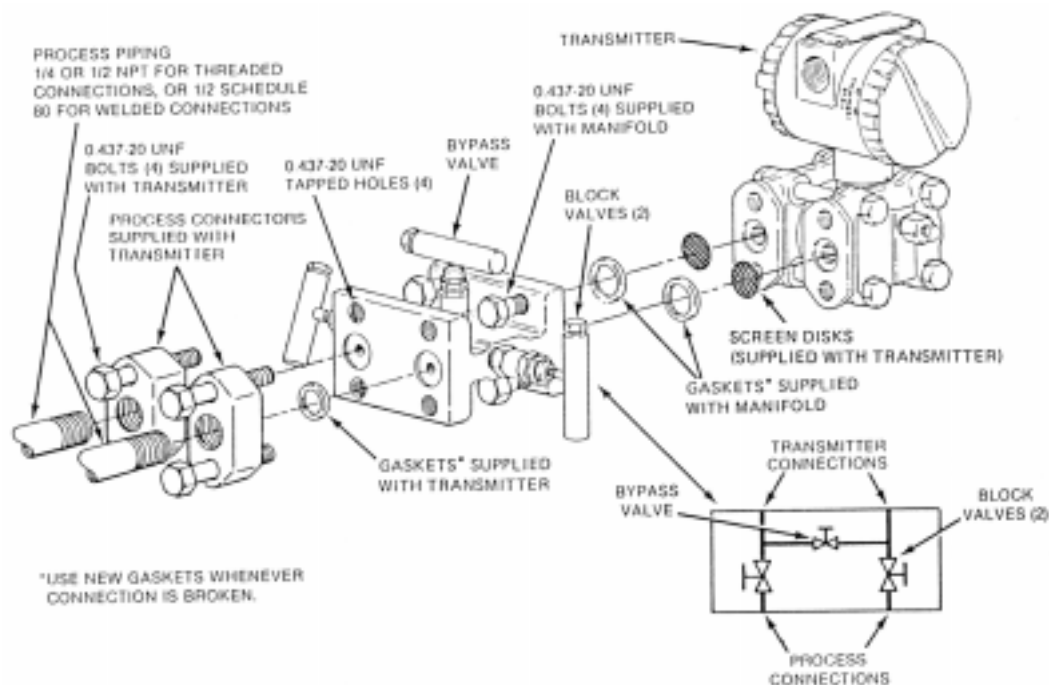

Figure 8. Installation of 3-Valve Mini-Manifold with Bolt-On Process Connectors.
2. Refer to Figure 8 before performing the steps that follow.